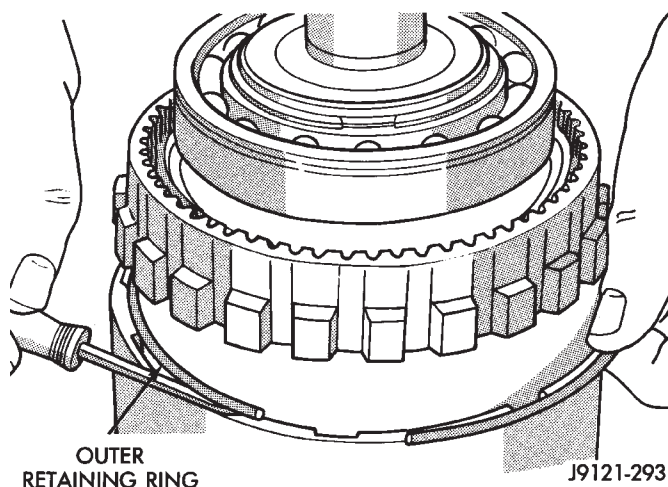

Fig. 206 Clutch Drum Outer Retaining Ring Removal
(8) Remove direct clutch drum outer retaining ring (Fig. 206).